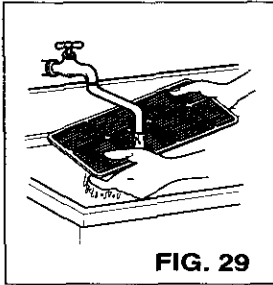

FIG. 29
- Wash the Air Filter under the faucet with warm water. Be sure to shake off all the water before replacing the filter. (FIG.29)